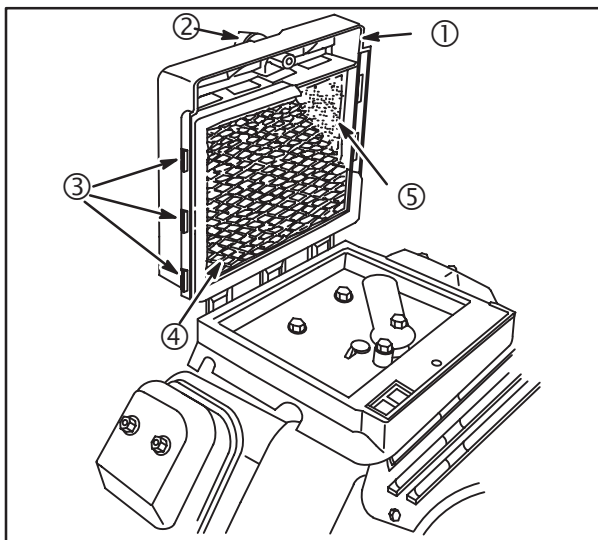

Fig. 3
1. Remove knob(s) (2) and cover assembly (1), **Fig. 3.**
7. Install paper cartridge in cover with tabs on cartridge (3) in slots of cover, **Fig. 3.**